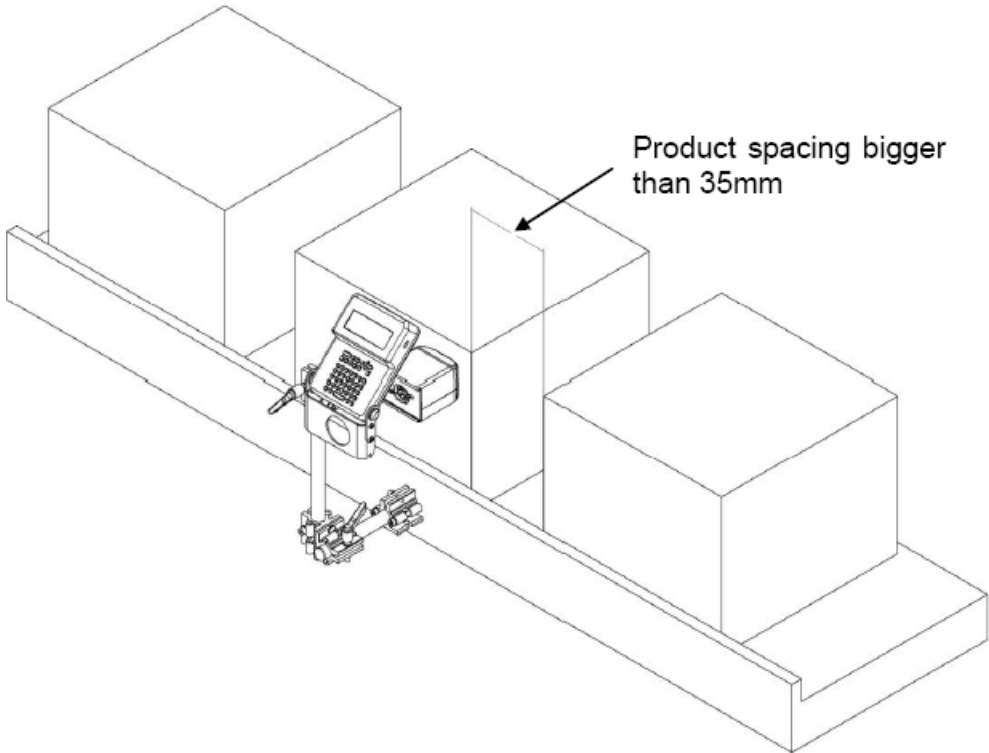

Figure 3-18: Product Spacing
**Note:** To guarantee regular operation of the internal sensor, make sure that the product spacing on the production line is greater than 35 mm as shown in Figure 3-18 on page 3-14.